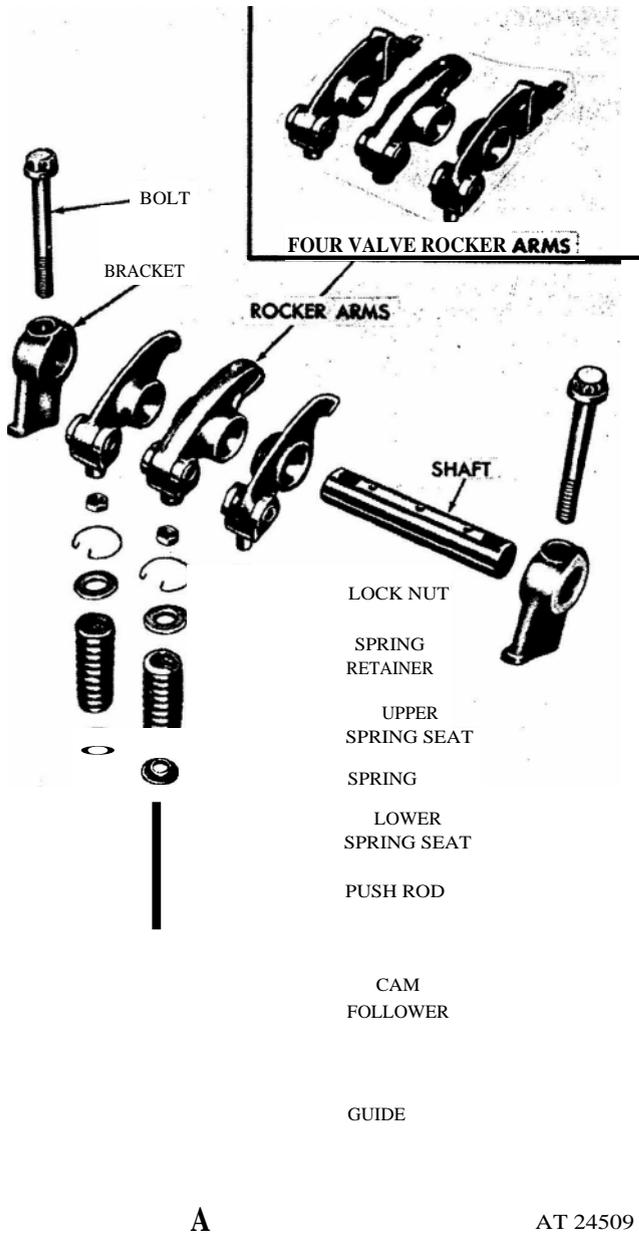
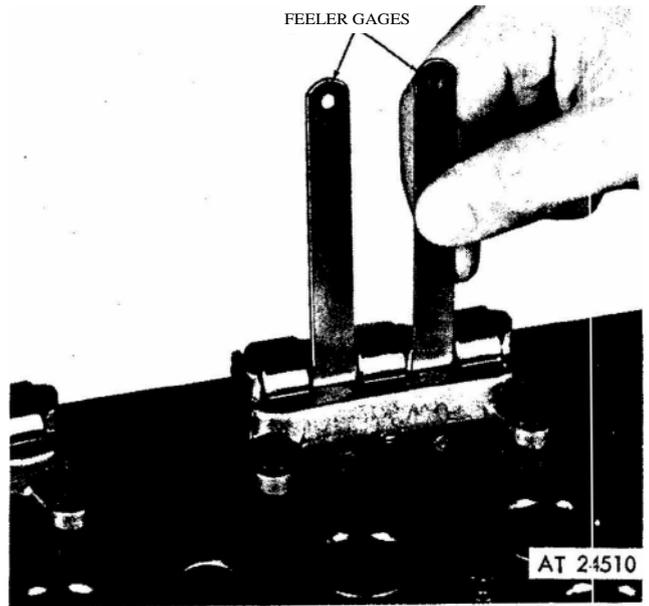
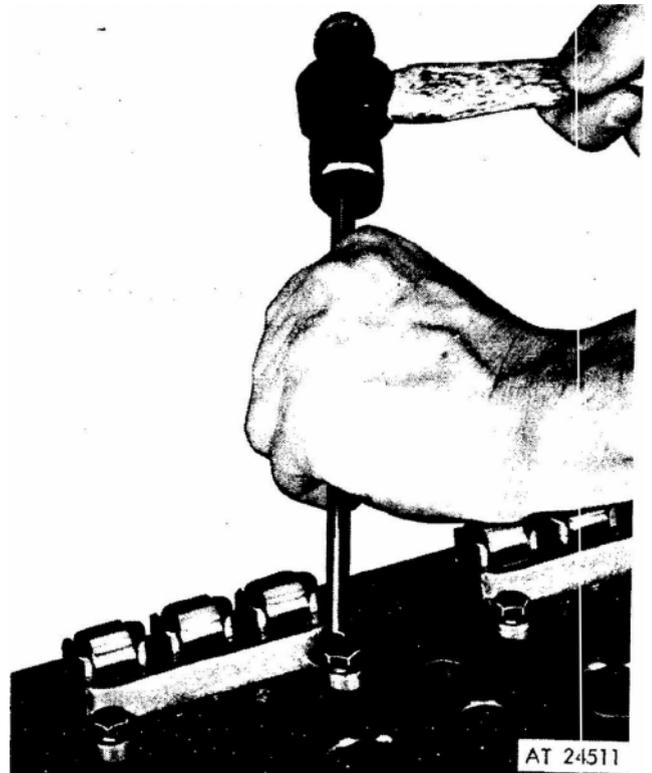

Figure 8. Valve and injector operating mechanism details and relative location of parts.
Figure 9. Checking the clearance between the cam follower guide and cam follower legs.
Figure 10. Tapping the corner of the guide.
8. Attach the cam follower guide (fig. 8) to the bottom of the cylinder head to hold the group of cam followers in place. Tighten the cam follower guide bolts to 12-15 lb-ft torque. Now, check to be sure there is at least .005" clearance between the cam follower legs and the cam follower guide (fig. 9). If there is insufficient clearance, loosen the guide bolts slightly and tap each corner of the guide with a brass rod (fig. 10); then, retighten the bolts to 12-15 lb-ft torque and recheck the clearance.